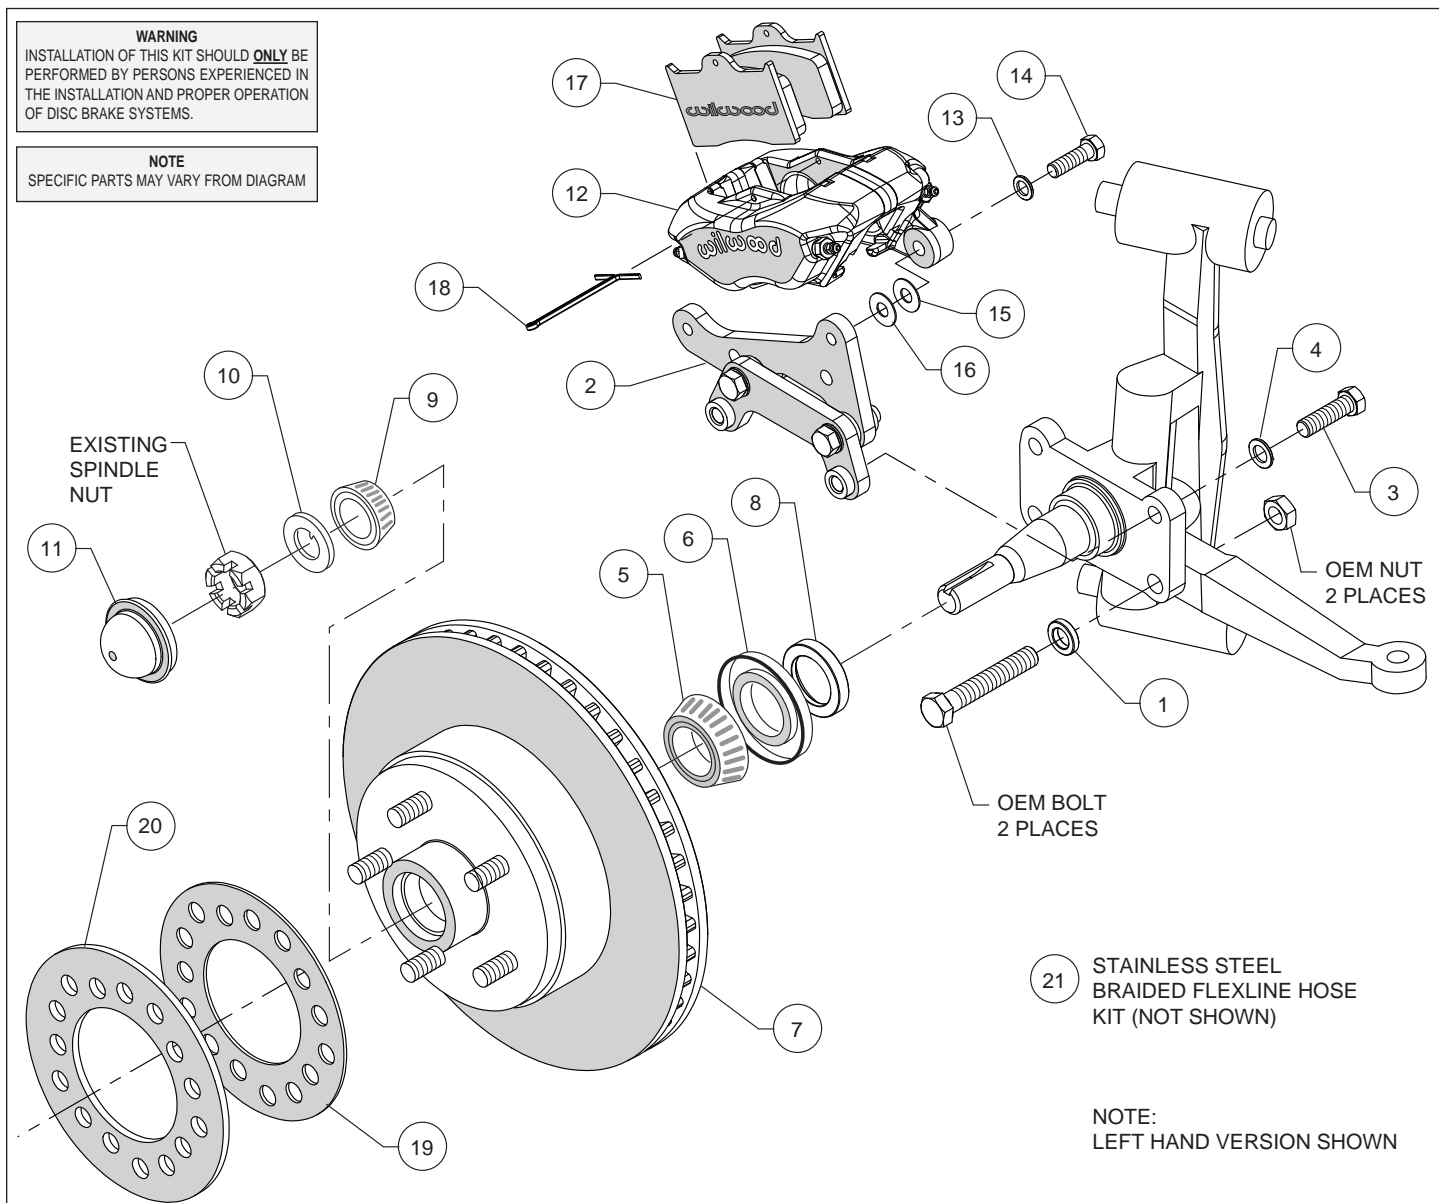
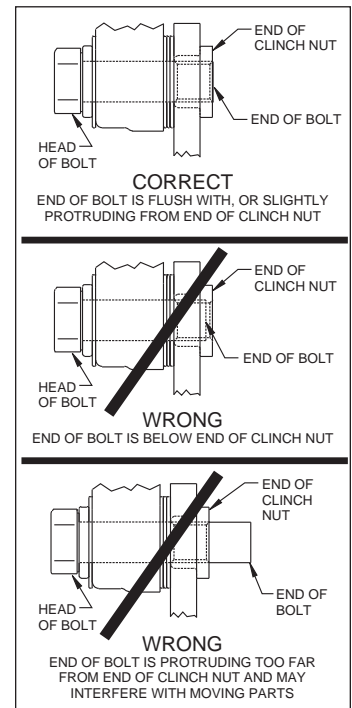

Figure 1. Typical Installation Configuration
Figure 3. Clinch Nut Engagement Diagram
**Assembly Instructions** (numbers in parenthesis refer to the parts list, on the preceding page and Figure 1): **CAUTION:** All mounting bolts must fully engage clinch nuts. Be sure to check that all bolts are either flush or protruding through flanged side of clinch nut after shimming, Figure 3.
- One at a time, remove the two lower OEM bolts that secure the steering arm from the back side of the spindle. Place spacer (1) on each bolt on the outboard side of spindle face and reinstall using OEM nut as shown in Figure 1 and Photo 1. Torque nut to manufacturer's specifications.
- Orient the caliper mount bracket (2) as shown in Figure 1 and Photo 2, and install using bolts (3) and washers (4). Ensure that the flanged heads of the clinch nuts in the bracket are facing outboard, Photo 2. Temporarily tighten the mounting bolts. **NOTE:** The bracket must fit squarely against the mount bosses on the upright. Inspect for interference from casting irregularities, machining ridges, burrs, etc. Remove bolts one at a time, apply red *Loctite*® 271 to the threads and torque to 60 ft-lb.
- Pack the large inner bearing cone (5) with high temperature disc brake bearing grease (available from your local auto parts store) and install into the backside of the hub (7), Photo 3.
- NOTE:** Please reference the caution statement at the beginning of the assembly instructions. Mount the caliper (12) onto the caliper mounting bracket (2) using bolts (14) and washers (13), as shown in Figure 1. Initially place one .035" thick shim (15) and one .016" thick shim (16) on each bolt between the caliper and the bracket, Photo 6. Temporarily tighten the mounting bolts and view the rotor (7) through the top opening of the caliper. The rotor should be centered in the caliper, Photo 7. If not, adjust by adding or subtracting shims (15 and/or 16) between the bracket and the caliper. Always use the same amount of shims on each of the two mounting bolts. **NOTE:** The end of each bolt must be flush with or slightly protruding from the head of the clinch nut, as shown in Figure 3. If necessary place spare shims between washer (13) and caliper mounting ear to achieve the proper clinch nut engagement. Once the caliper alignment and clinch nut engagement are correct, remove the bolts one at a time, apply red *Loctite*® 271 to bolt threads, and torque to 35 ft-lb.